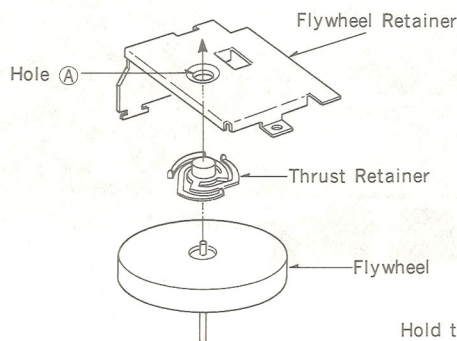

Fig. 17
1. Insert the thrust retainer into the hole (A) of the flywheel retainer as shown in fig. 17.